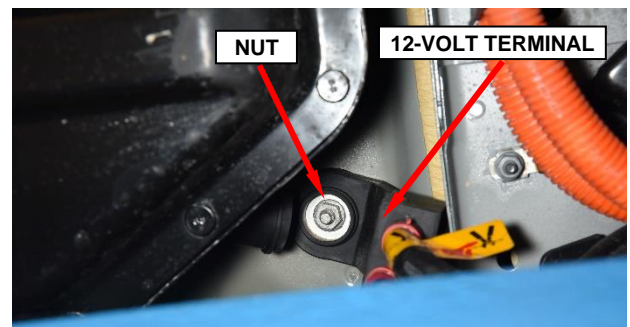

Figure 18 – 12-Volt Cable Terminal
7. Loosen the nut and remove the 12-volt terminal and nut assembly from the isolator post (Figure 18).
32. Install the 12-volt cable terminal and nut assembly to the isolator post then tighten the nut to 23 N·m (17 ft. lbs.) (Figure 18).